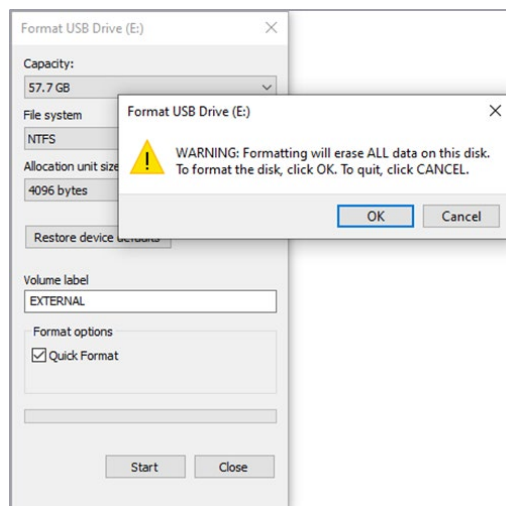

Figure 29. Press ‘ok’ to format the disk
**Step 4.** Press OK (Figure 29)